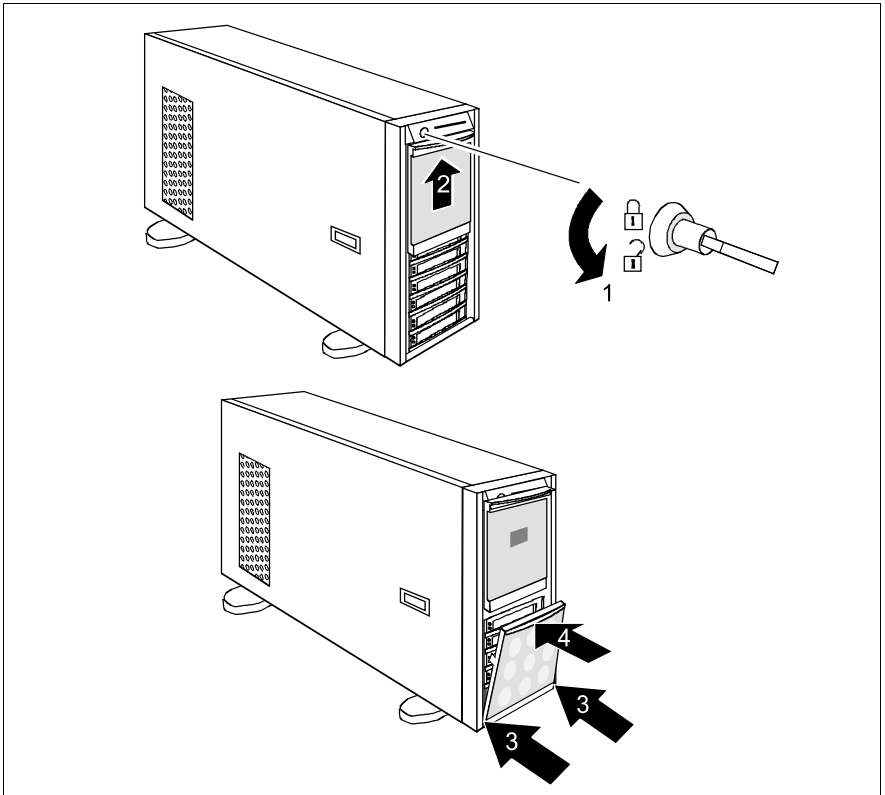

Figure 2: Fitting the HDD cover
- ▶ Unlock the server (1) and remove the key (figure 2).
- ▶ Push the drive cover (2) up as far as it will go until it locks in place (about 0.5 cm above the closed position).
- ▶ Engage the guide pins on the left and right of the HDD cover in the recesses (3) provided.
- ▶ Press the top end (4) of the HDD cover in the direction of the arrow until it engages.